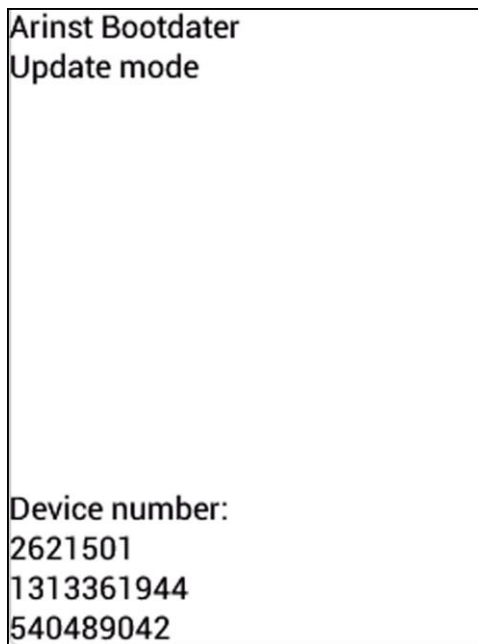

Figure A3.3 - The device is in update mode
3.3. If the update process was interrupted, the device will run in update mode until the update process is completed. The device will display the update mode in which the device is located (Figure A3.3).